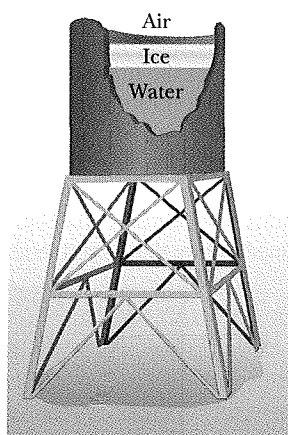

Fig. 18-46 Problem 61.
••61  A tank of water has been outdoors in cold weather, and a slab of ice 5.0 cm thick has formed on its surface (Fig. 18-46). The air above the ice is at -10°C . Calculate the rate of ice formation (in centimeters per hour) on the ice slab. Take the thermal conductivity of ice to be $0.0040 \text{ cal/s} \cdot \text{cm} \cdot \text{C}^\circ$ and its density to be 0.92 g/cm^3 . Assume no energy transfer through the tank walls or bottom.